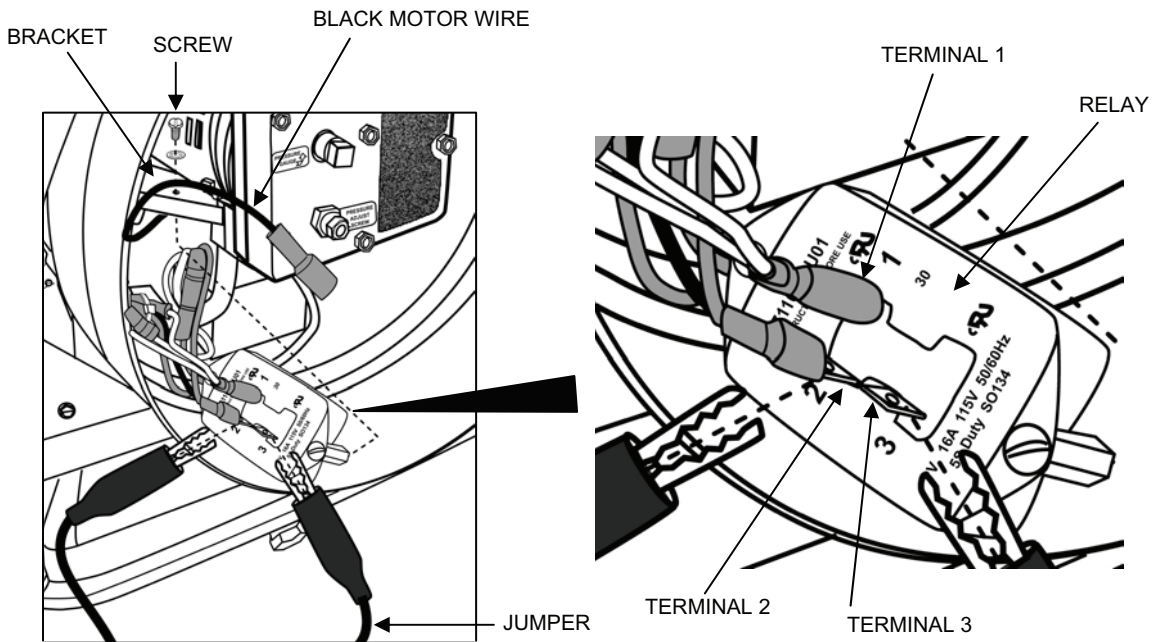

Figure 5. Diesel Heater Motor Relay and Motor Test Set-Up.
- d. (See Figure 5) Remove the two screws that hold the motor starting relay to its bracket inside the inlet end of the heater shell and gently pull the relay out as far as the wires will reach. (If the wires are bound with a plastic tie-wrap, it may be necessary to clip the tie-wrap.)
- a. Tag and remove the black motor wire from terminal three (3) of the starting relay.
- b. Clip one end of the jumper to terminal three (3) of the starting relay.
- c. Clip the other end of the jumper to terminal two (2) of the starting relay.
Replace / reinstall the motor starting relay as follows (see Figure 5):
- e. Disconnect the white, red, and black motor wires from relay terminals one (1), two (2), and three (3). (See Figure 5.)
- d. Connect the green wire of the new motor to the motor mounting bracket, the white wire to relay terminal one (1), the red wire to relay terminal two (2), and the black wire to relay terminal three (3). (See Figure 5.)